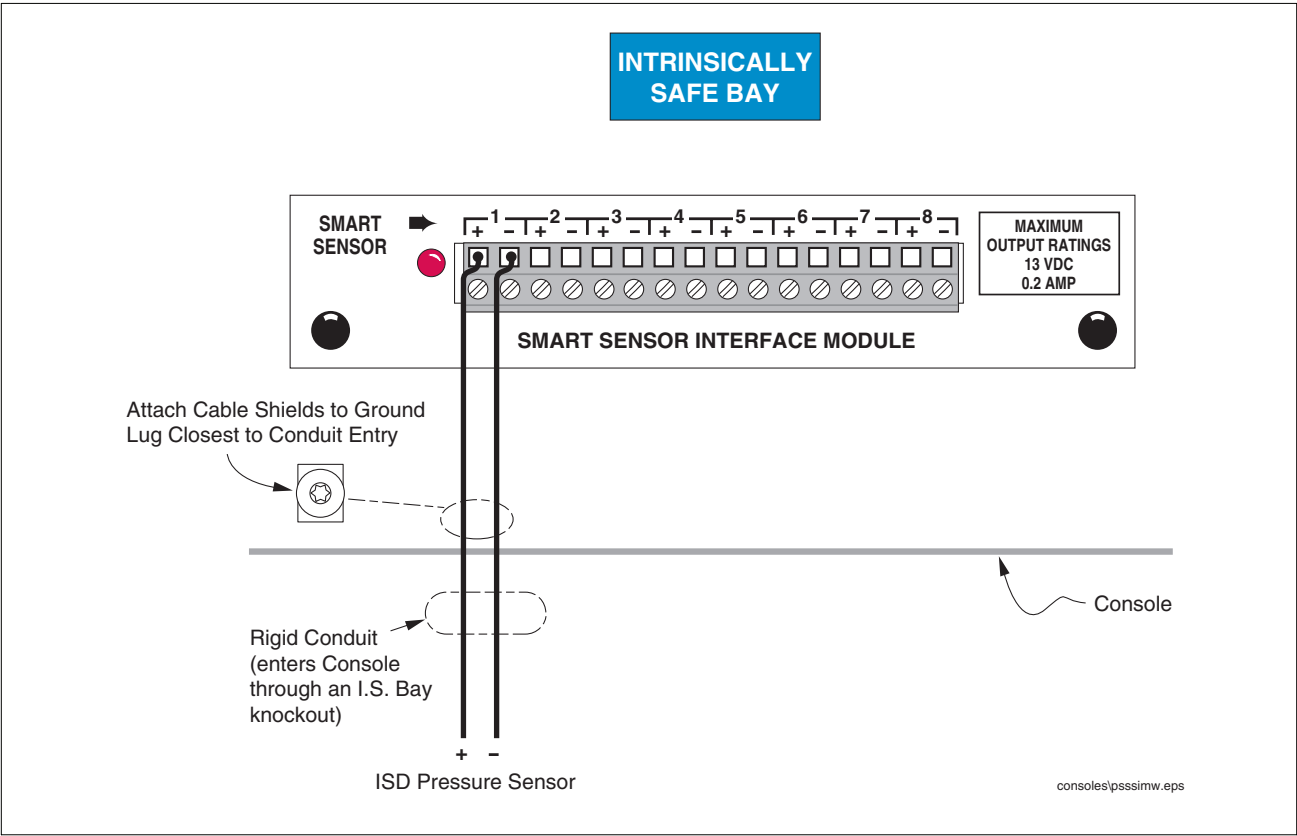

Figure 4. Connecting ISD Pressure Sensor to Smart Sensor Interface Module
14. Terminate field wiring into TLS Console and connect to Smart Sensor Interface Module located in the intrinsically safe wiring compartment of the TLS as shown in Figure 4. Note: observe polarity! The cable length between the console and sensor must not exceed 1000 feet.